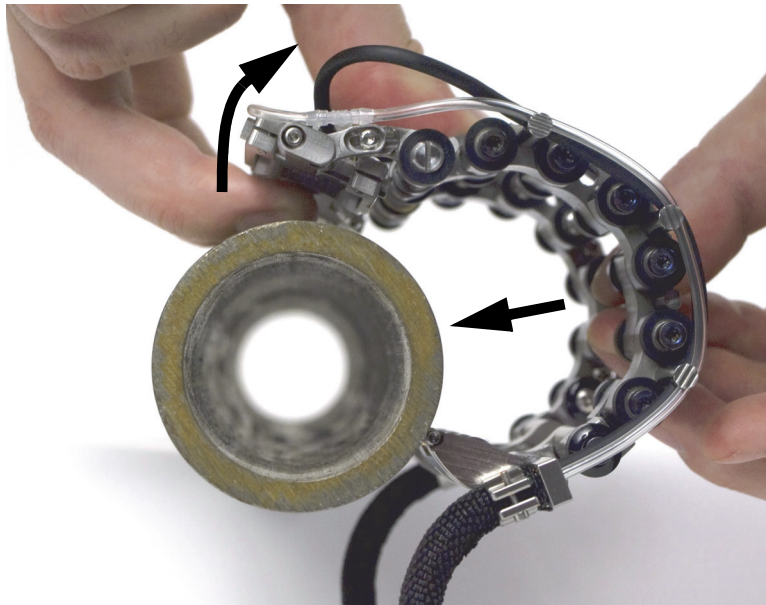

Figure 2-28 Installing the scanner on the pipe
- a) Pull the probes open by hand (see Figure 2-28 on page 54).